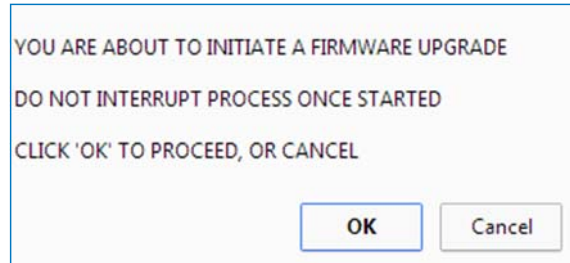

Figure 3-14: Proceed With Upgrade Prompt
5. Click the “Upload” button. A warning message will appear; click the “OK” button (See **Figure 3-14**).